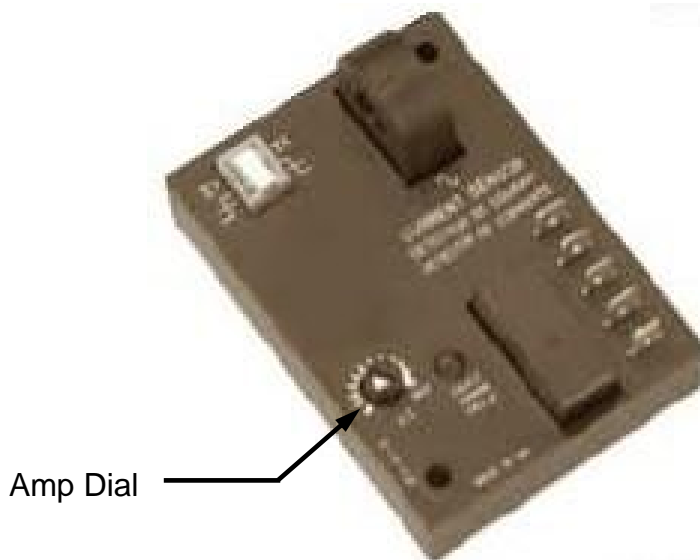

Figure 40 ECS Enclosure
Q. ELECTRICAL CURRENT SENSOR (ECS) with TRIP RELAY (Reference Fig. 40)